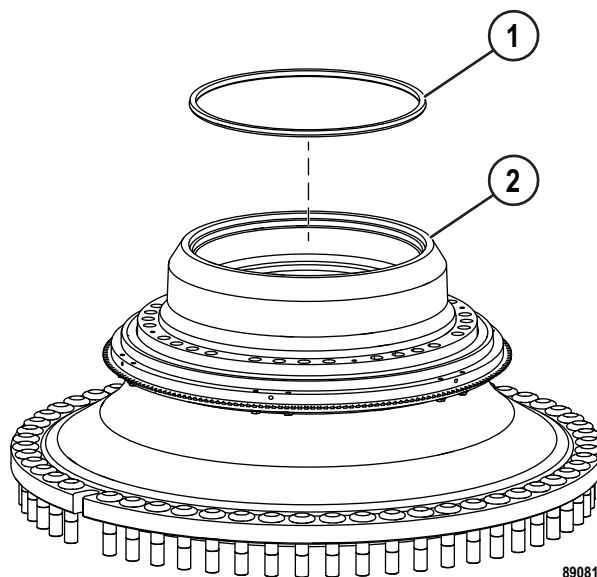

FIGURE 50-89. OIL SEPARATION SEAL
25. Use Installation tool (58F-98-50000) to install one half of oil separation seal assembly (1, Figure 50-89) into wheel hub (2). Refer to the topic "Floating ring seal assembly and installation" for the proper assembly instructions for the oil separation floating seal assembly.